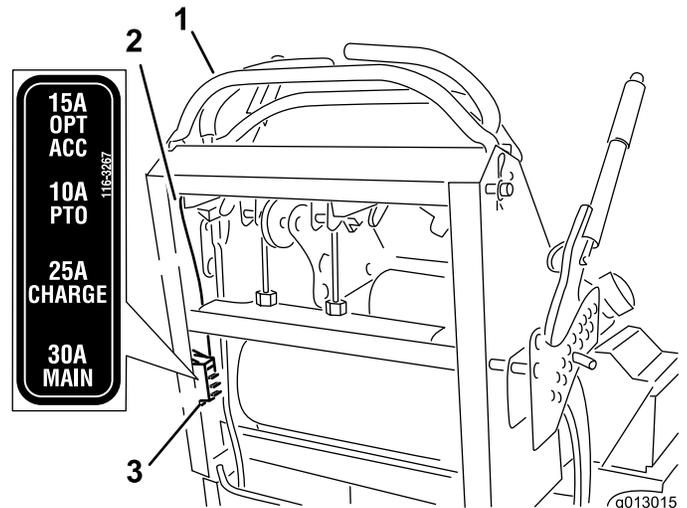

Figure 55
2. Pull out on the fuse to remove and replace it (Figure 55).